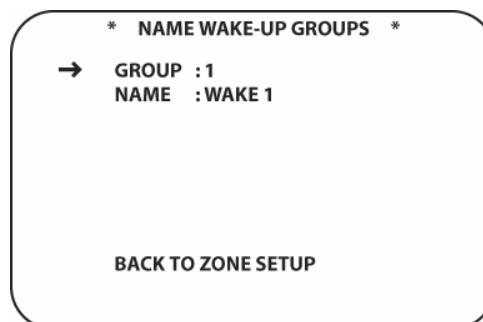

Figure 105 Name Wake-Up Groups Screen
1. From **ZONE SETUP PAGE 1**, with the cursor next to **NAME WAKE-UP GROUPS**, press the **Set Button [oval 18]**. The **NAME WAKE-UP GROUPS** screen will appear. (**Figure 105**)